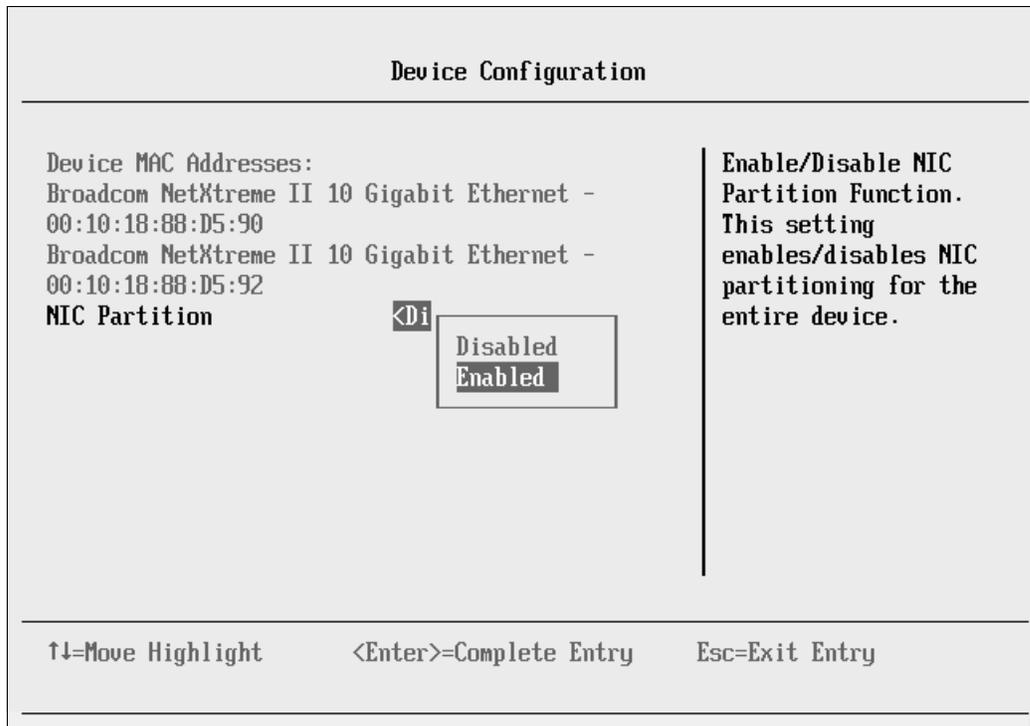

Figure 9-6 Device Configuration panel to enable the NIC partition
8. In the Device Configuration panel (Figure 9-6), for NIC Partition, select **Enabled**. With the vNIC partitions enabled, press Esc.